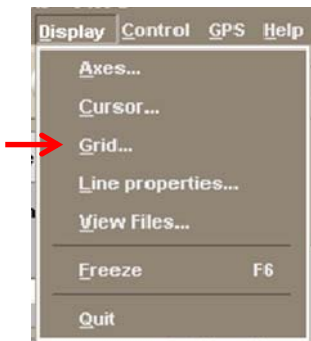

Figure 3-38: Select Grid
- Select “Grid...” (Figure 3-38).